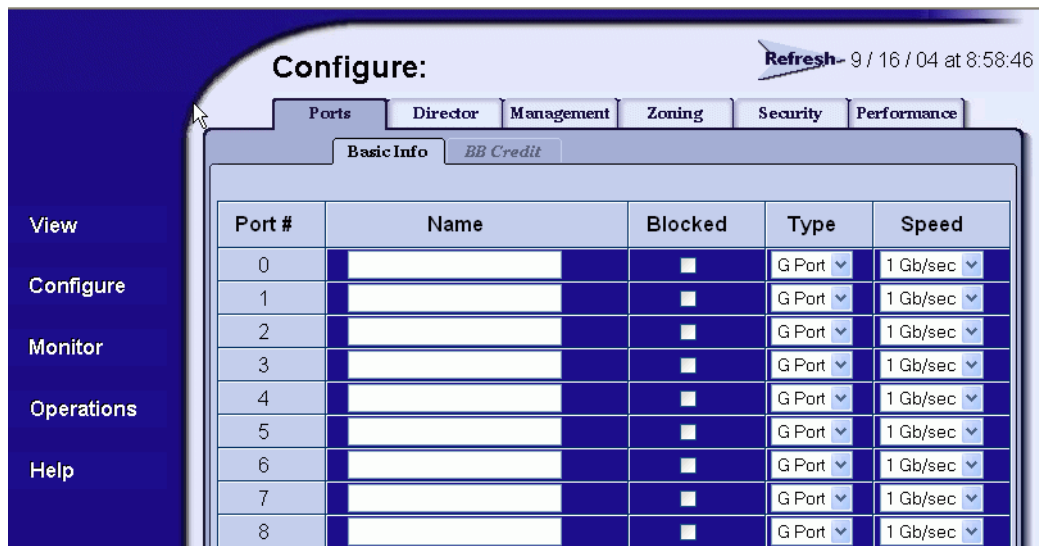

Figure 4-34 Configure Panel (Ports Page)
1. When the SANpilot interface opens, the *View* panel and *Switch* page appear as the default. At the *View* panel, select the *Configure* option at the left side of the panel. The *Configure* panel opens with the *Ports* page displayed (Figure 4-34).
1. When the SANpilot interface opens, the *View* panel and *Switch* page appear as the default. At the *View* panel, select the *Configure* option at the left side of the panel. The *Configure* panel opens with the *Ports* page displayed (Figure 4-34 on page 4-51).